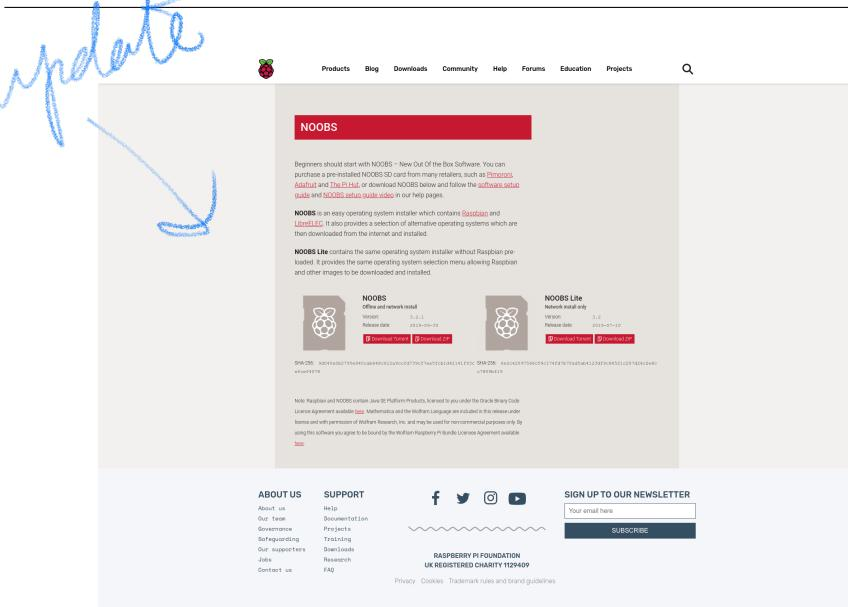

Figure 8.2: The NOOBS download page
- Head to the NOOBS download page <https://www.raspberrypi.org/download-s/noobs/> (Figure 8.2) and download the ZIP file for Offline and network install.